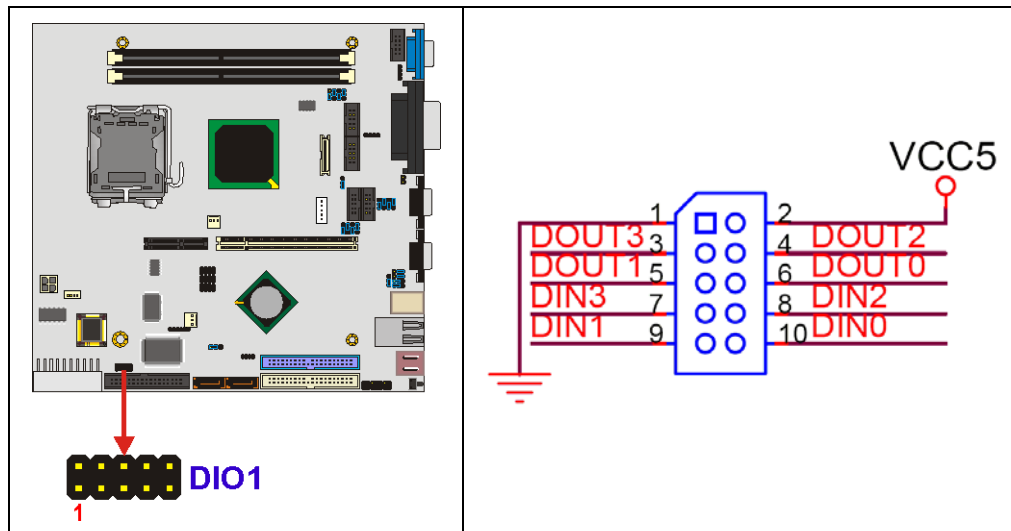

Figure 3-9: Digital Input/Output Connector Location
- CN Location:** See Figure 3-9